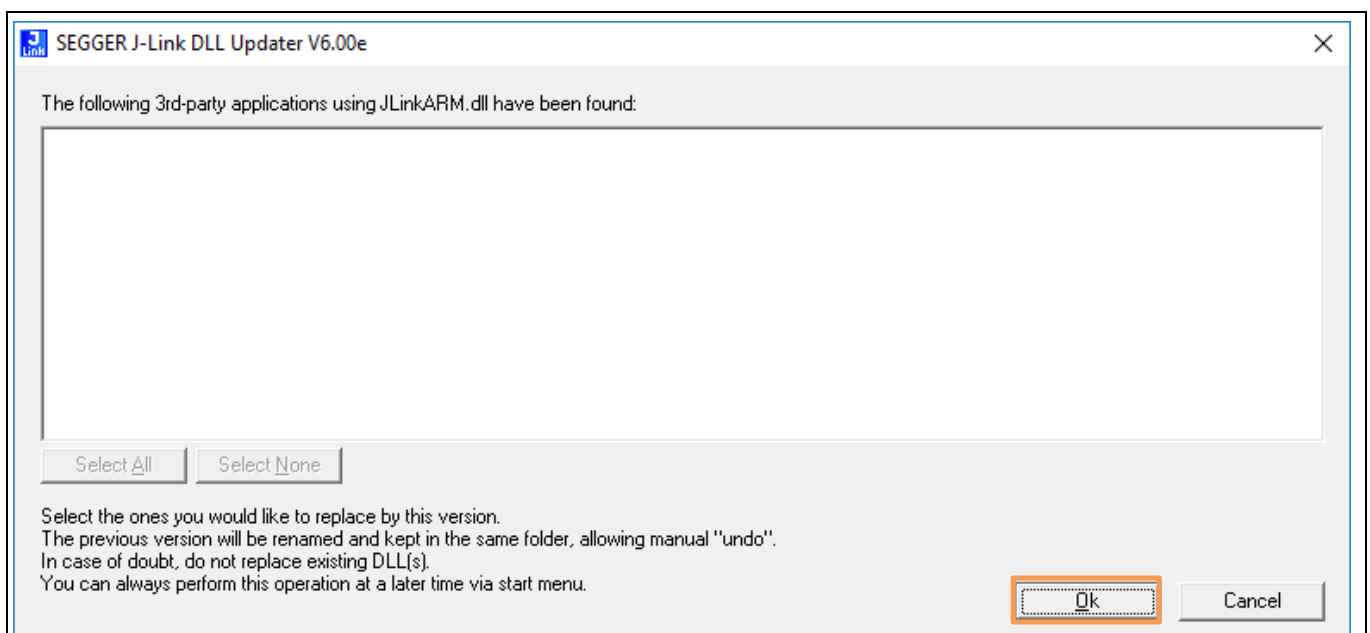

Figure 28 SEGGER JLINK Drivers – End of Installation
- Click “Ok” button to complete the Jlink driver installation which has shown in the below Figure 28.